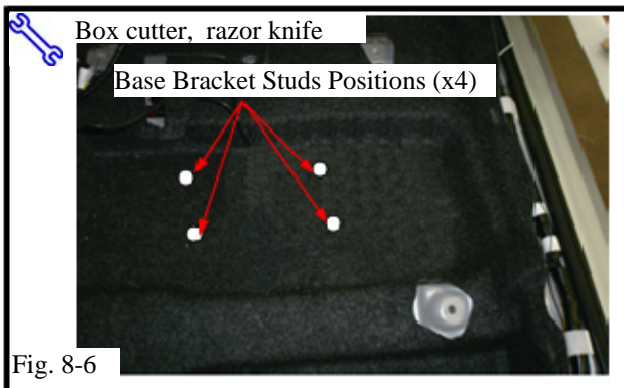

Fig. 8-6
- (m) Verify the base bracket studs positions. Transfer each stud location onto the floor carpet using cutter knife to cut the four (4) holes in floor carpet. (Fig. 8-6)